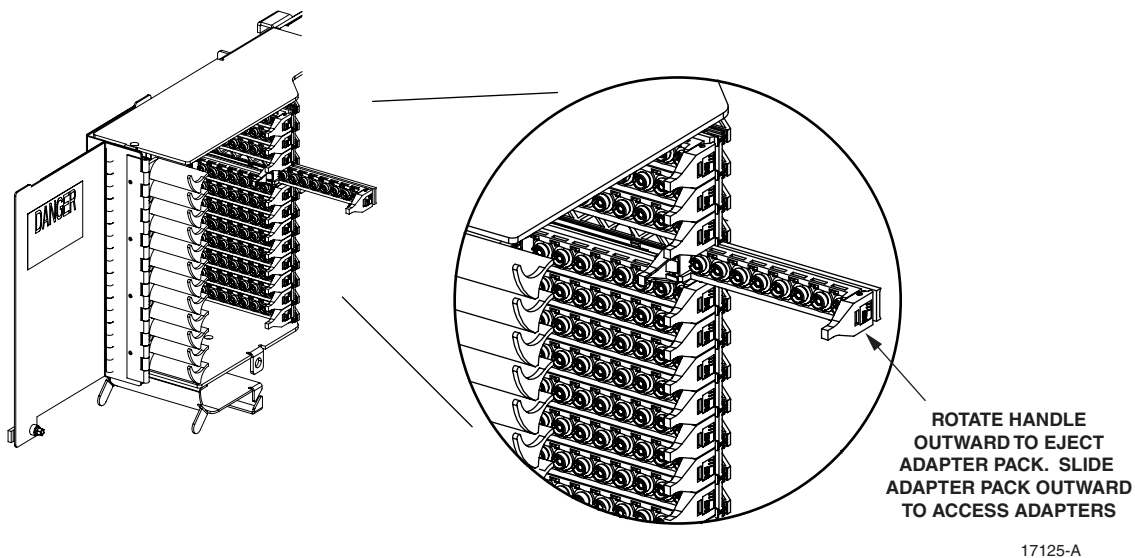

Figure 17. Access Adapter Packs in FTB
- Slide the adapter pack out to provide access to the rear side of the adapters as shown in Figure 17.